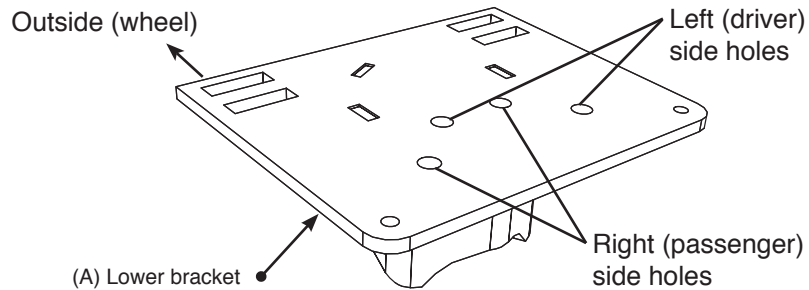

fig. 5
If you have no fifth wheel hitch or a hitch that does not have a plate running alongside the full length of the frame (these will have an “L” bracket forward and behind the axle leaving the middle frame open) use the 1/2”-13 x 2.00” Hex Cap Screw (HH) with a flat washer (R) through the slot in the side of the frame, then through another flat washer (R) and finally through the upper brace. Cap with a flat washer (R) and a 1/2”-13 nyloc nut (X) (Fig. 5). Leave loose at this time.
2. Install the swivel elbow fitting (Z) into the top of the bellows finger tight. Tighten the swivel fitting one and a half turns.
3. The lower bracket (A) has two sets of bellows mounting holes. Using the corresponding holes in the lower bracket designated (Fig. 5), attach the bellows to the brackets using the 3/8" flat washers (W), lock washers (U), and 3/8"-24 x 7/8" hex head cap screws (N). Torque both mounting screws to 20 lb.-ft.